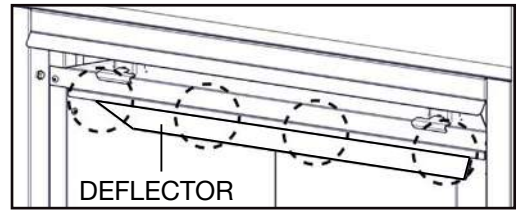

Fig. 1
- To ease assembly, remove the four hex head screws securing the deflector from inside the top front of the firebox **(Fig. 1)**. Set deflector aside.